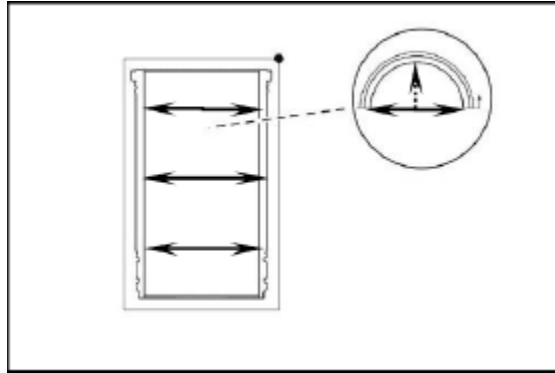

Figure 80.
- With the liner in place check the upper, middle, and lower working areas for any burnishing (Figure 80).